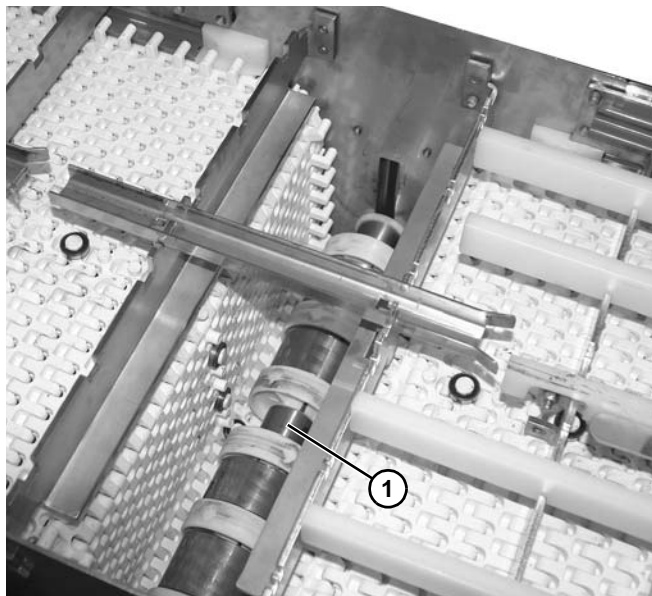

Figure 16
6. Continue feeding belt around the gravity take-up (**Figure 16, item 1**).